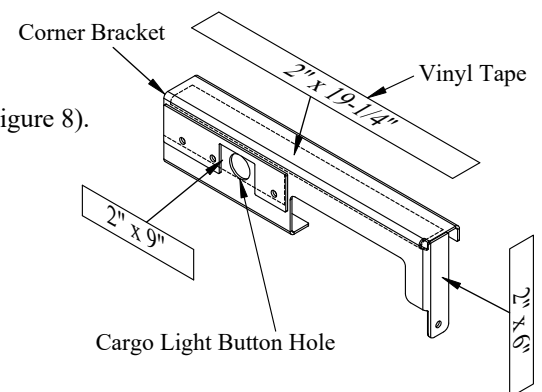

Figure 8: Vinyl tape locations.
2. **Apply** the vinyl tape to the corner brackets as shown (Figure 8).
5. **Cut** vinyl tape around cargo light button hole on driver side bracket, if needed (Figure 8).